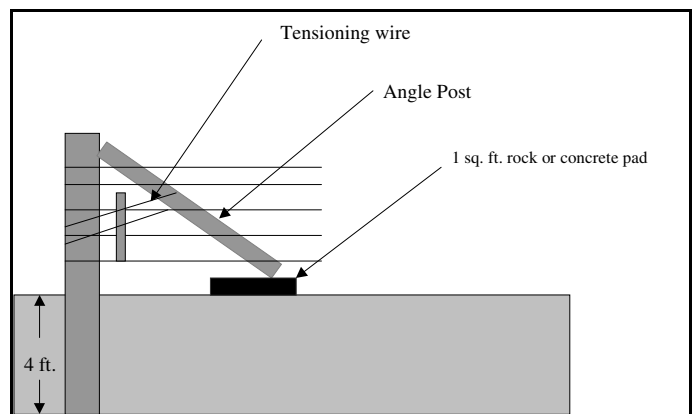

Figure 15. Angle brace.
A second type of brace, called an angle brace, is shown in Figure 15 (page 13). The keys to making this brace work are (1) making sure the end post is deep in the ground (about 4 feet), (2) placing a 1 to 2 square foot rock or piece of concrete under the angle brace post, and (3) properly tensioning the tension wire. It is the tension wire that gives this brace its strength, not the angle post. If the fence starts to sag, it can usually be tightened by retensioning the tension wire.